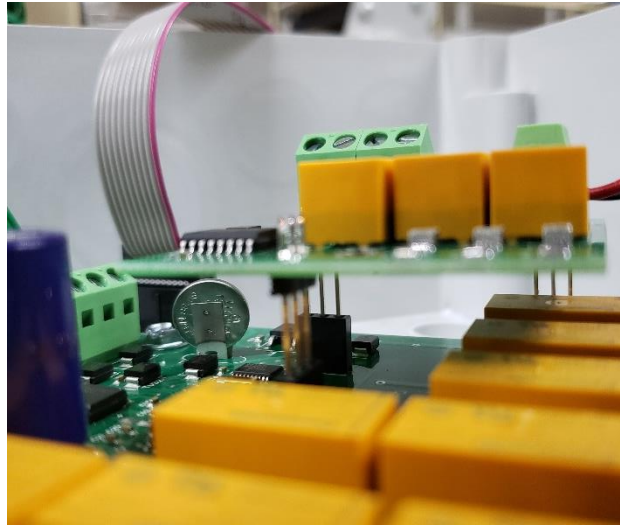

Figure 1: CH add on board pins connected into headers on bottom relay board.
Step 5: At this point install the CH add on board attached to your new lid assembly into the relay board in the bottom of the enclosure. See **Figure 1** below.